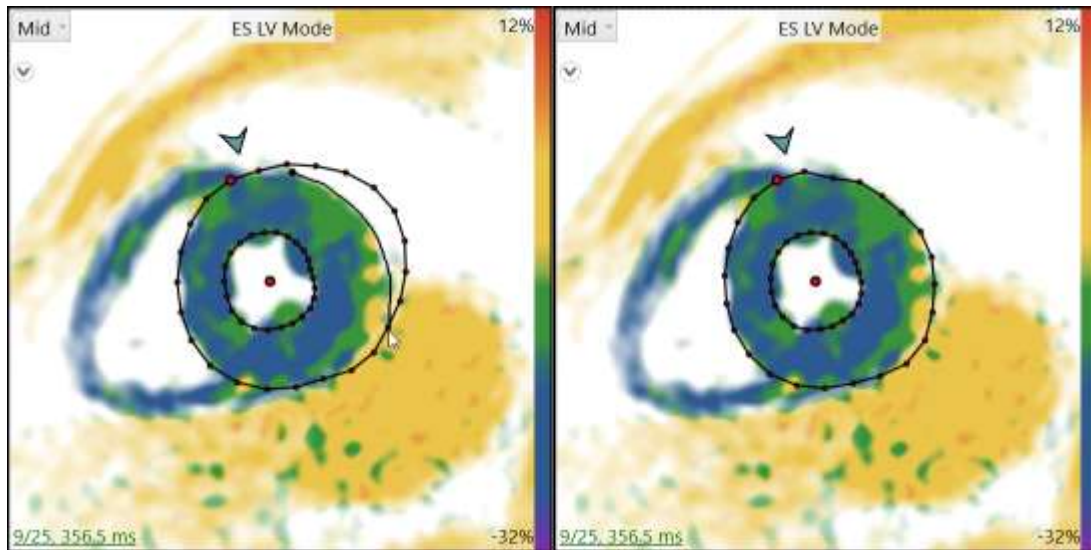

Figure 4-8: Mesh adjustment by drawing a new contour freehanded
4. If a large section of the mesh's epicardial or endocardial contour points need to be redrawn, you may redraw a portion of the contour by left-clicking periodically near the existing mesh, then double-clicking to complete. Additionally, clicking and holding the left-mouse button will allow a contour to be traced onto the myocardium. The mesh will incorporate this new drawing into the existing mesh. (Figure 4-8).